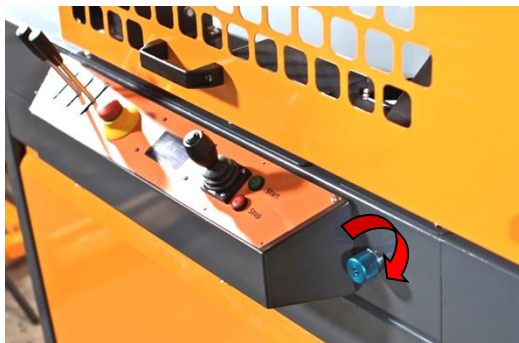

Figure 35 Speed control valve of the cutting arm
- To adjust the speed, turn the valve to its minimum position (Figure 35).